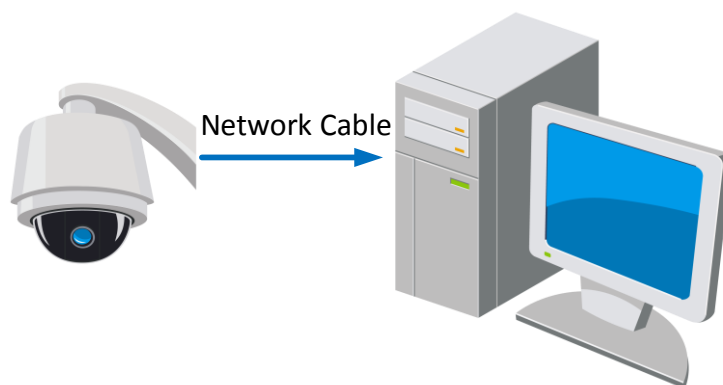

Figure 2-1 Connecting Directly
- To test the network speed dome, you can directly connect the network speed dome to the computer with a network cable as shown in Figure 2-1.